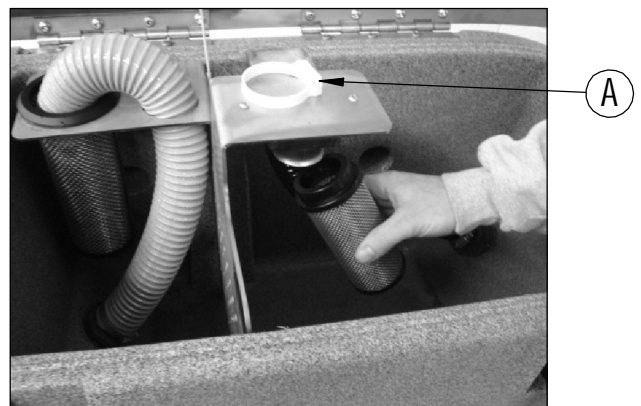

FIGURE 24.
1. REMOVE VAC SCREEN RETAINING CLIP "A". (SEE FIGURE 24.)